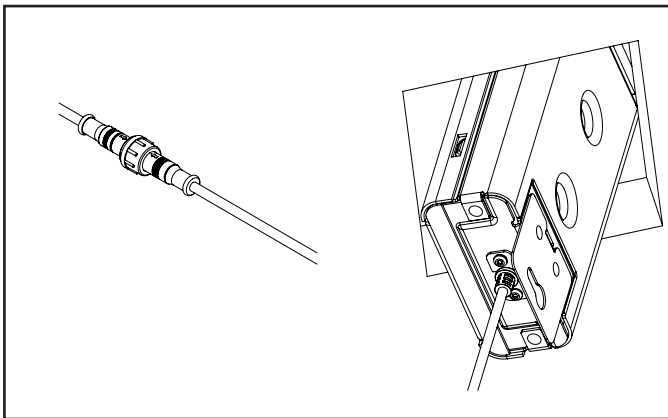

Figure 3.
3. Use the quick connect to attach the LED Module side cable to the driver side cable (see figure 3).
4. Carefully insert the junction box into the hole in the ceiling (see Figure 3). Mounting placement of the junction box to be 6-14" away from the center of the hole in the ceiling. Using the junction box's mounting holes, mount to building structure in accordance to local code as required.